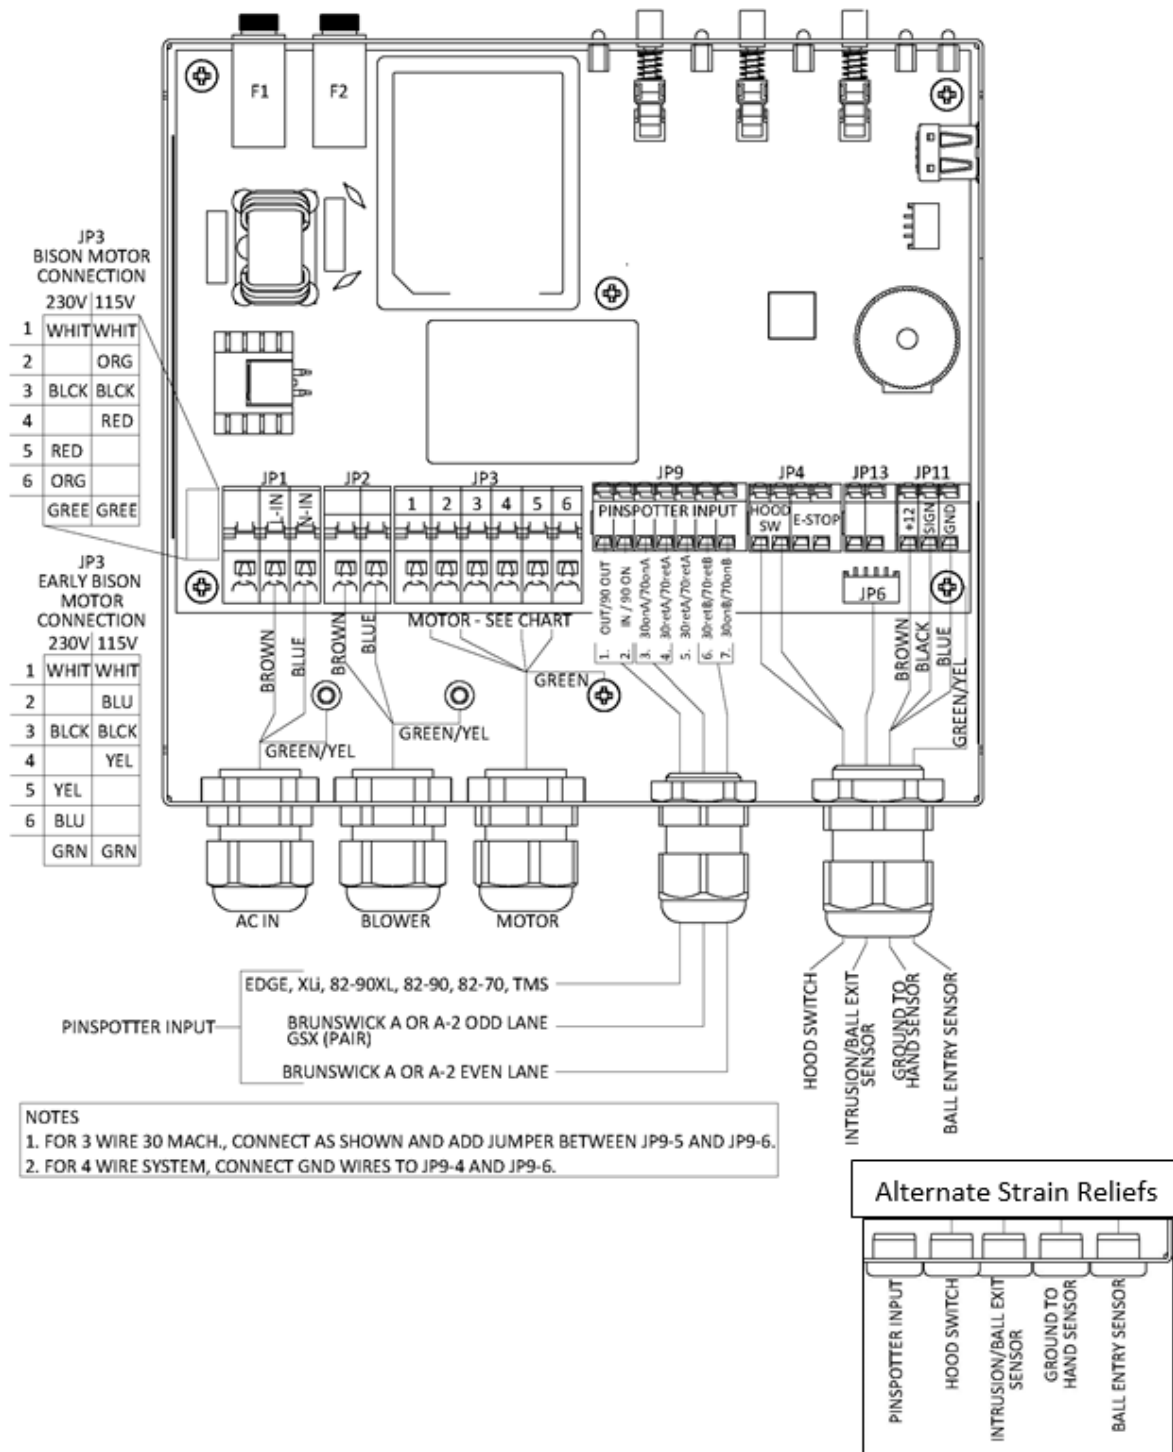

Figure 19 - Control Box Wiring Diagram
4. Route the power supply cable to the “AC IN” location of the control box and secure with the appropriate strain relief for cable or conduit. See Figure 19.
7. Connect the incoming AC power conductors to **JP1** terminals L-IN (L1) and N-IN (L2). Refer to the table below and Figure 19.
8. Route the blower cable into the control box (see Figure 19).
11. Route the motor cable to the lift motor location on the controller enclosure. Pass the cable through the cable restraint, but do not tighten the cable restraint. See Figure 19.
13. Connect the conductors per wire color to terminal **JP3** as shown in Figure 19. Connection information is also shown on the exterior of the motor. Verify the connections are correct for the line voltage (115 or 230) used.
15. Connect the pinspotter's control wires to junction block **JP9** as shown in Figure 19 and Figure 20.
- Connect the conductors to **JP4 HOOD-SW** terminals. The connection position does not depend on the color of the wire. See Figure 19.